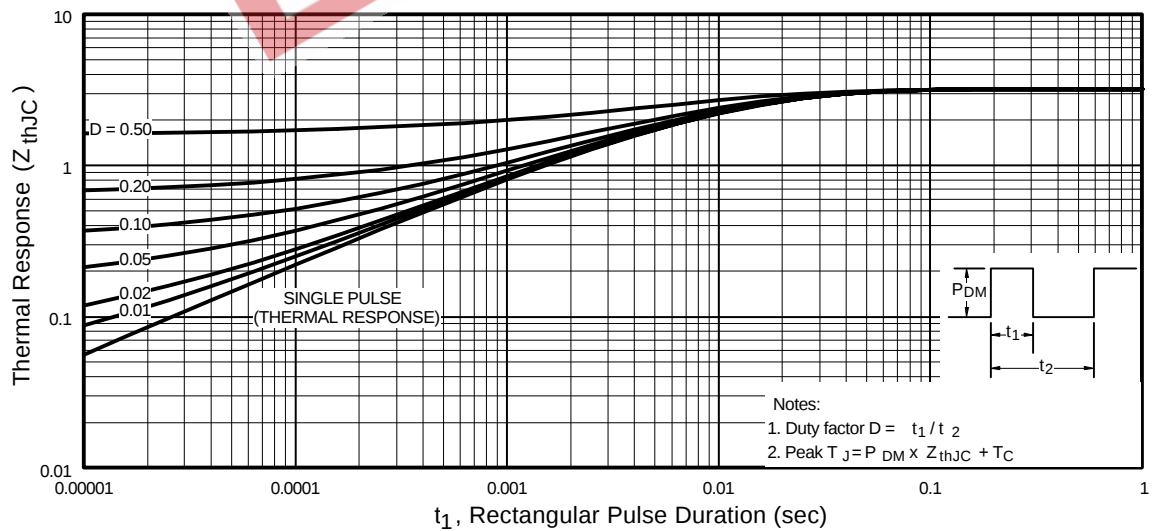

Fig 11. Maximum Effective Transient Thermal Impedance, Junction-to-Case
① Repetitive rating; pulse width limited by max. junction temperature. (See fig. 11)
④ Pulse width $\leq 300\mu s$; duty cycle $\leq 2\%$
② Starting $T_J = 25^\circ\text{C}$, $L = 18mH$